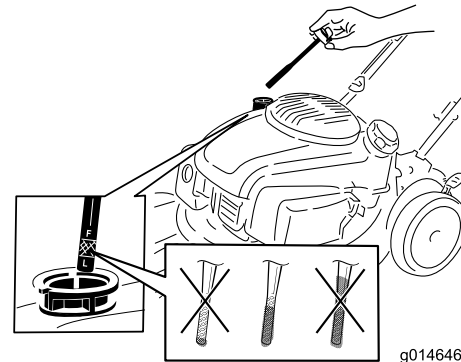

Figure 8
1. Remove the dipstick, wipe it clean, and insert it into the oil filler neck, but **do not** screw it in (Figure 8).
2. Remove the dipstick and check the oil level (Figure 8). If the oil level is below the Add mark on the dipstick, **slowly** pour oil into the oil fill tube to raise the oil level to the Full mark on the dipstick. **Do not overfill.** (Max. fill: 22 oz. (0.65 l), type: 10W-30 or SAE 30 detergent oil with an API service classification of SJ or higher.)